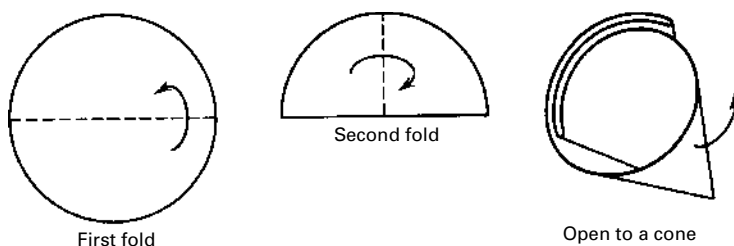

FIGURE 13.1 Folding filter paper for gravity filtration.
1. Fold up a **filter cone** from a piece of filter paper (Fig. 13.1). It should fit nicely, within a single centimeter or so of the top of the funnel. For those who wish to